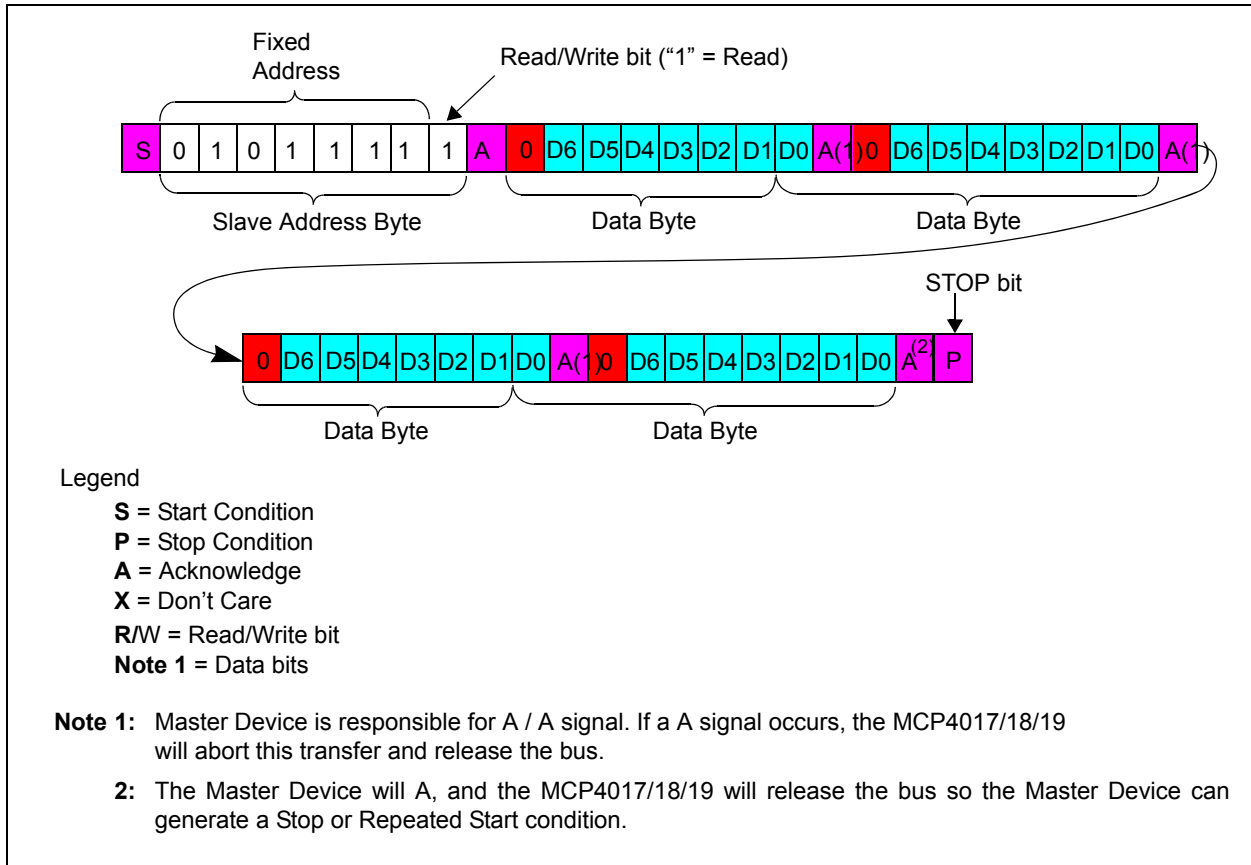

FIGURE 5-13: I²C Read Command Format.
The command is terminated once a Stop (P) condition occurs. Refer to Figure 5-13 for the read command sequence. For a single read, the master sends a STOP or RESTART condition after the 1st data byte (and A bit) is sent from the slave.